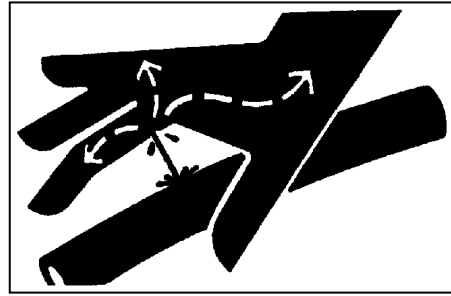

Figure 1.28.1
- 1) Effluent liquids in high pressure will penetrate through skin, causing GBH (As figure 1.28.1).